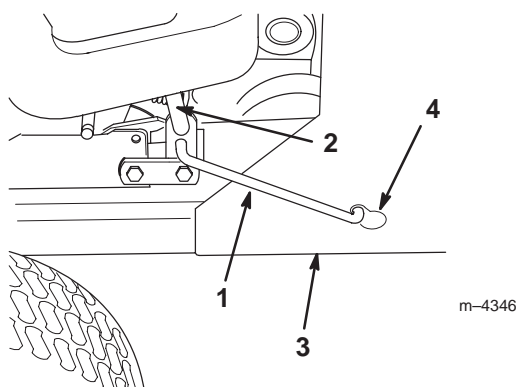

Figure 25
2. Relieve the snowthrower belt tension by pulling the spring tension lever forward until you have enough slack to disconnect the link from the keyhole slot (Fig. 25).